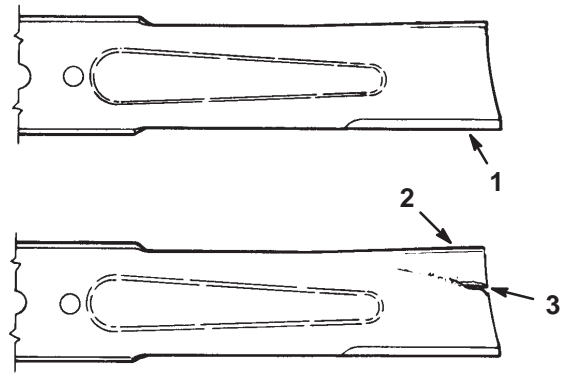

Figure 40
1. Inspect the cutting edges (Fig. 40). If the edges are not sharp or have nicks, remove and sharpen the blades. Refer to Sharpening the Blades on page 32.
2. Inspect the blades, especially the curved area (Fig. 40). If you notice any damage, wear, or a slot forming in this area (item 3 in Fig. 40), immediately install a new blade.